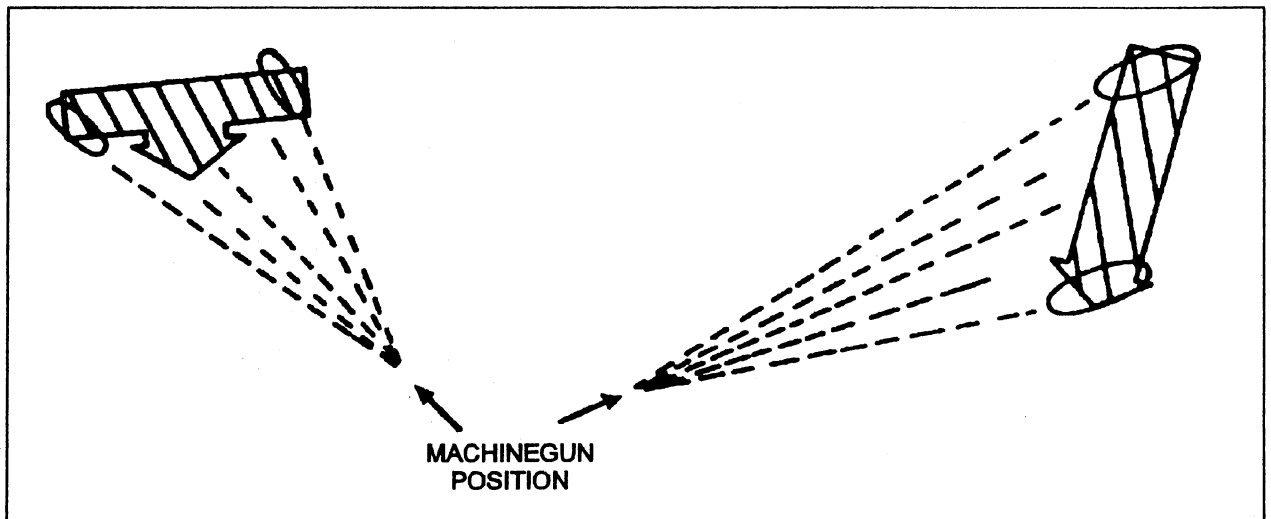

Fig 3-7. Oblique fire.
- d. Oblique fire. The long axis of the beaten zone is at an angle, but not a right angle, to the long axis of the target (see fig 3-7).